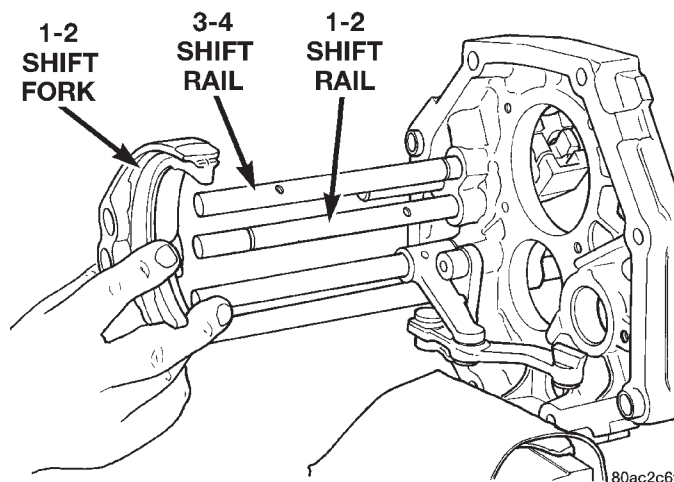
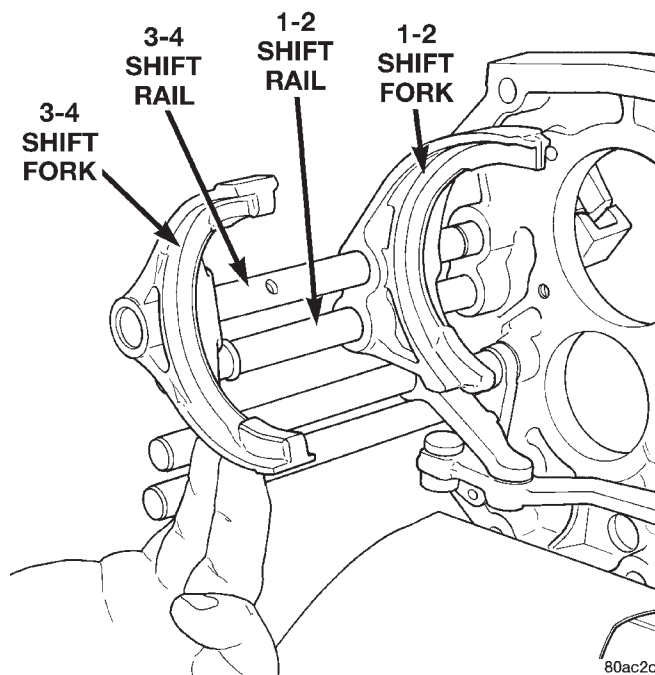

Fig. 85 Install 1-2 Shift Fork
Fig. 86 Install 3-4 Shift Fork
(14) Remove the intermediate plate from the vise, rotate the plate 180°, and reinstall the plate in the vise using the same bolt and washer mounting set-up.
(15) Install the shift rail detent balls in the intermediate plate.
(16) Install the shift rail detent springs in the intermediate plate. Note that the bottom detent spring is shorter than the others.
(17) Install the shift rail detent plugs in the intermediate plate.
(18) Install the 1-2 shift fork onto the 1-2 and 3-4 shift rails (Fig. 85).
(19) Install the snap-ring onto the 1-2 shift rail.
(20) Install the 3-4 shift fork onto the 3-4 shift rail (Fig. 86).
(21) Install mainshaft into the intermediate plate by guiding the output shaft through opening in intermediate plate until the shift forks are aligned with